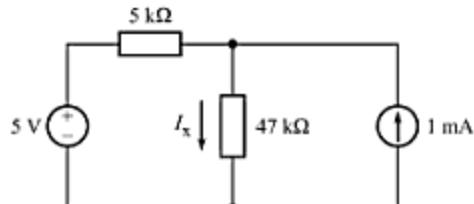

Fig. A-74
- A-33. For the circuit of Fig. A-74, compute the current *I*x through the 47-kΩ resistor after transforming the 5-V source into an equivalent current source.